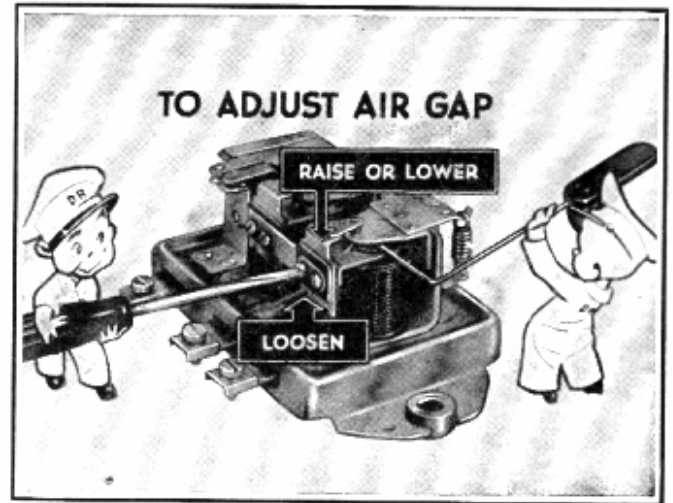

Fig. 30—Adjusting Air Gap
- Adjustment of the air gap—Push the armature down all the way by hand. Allow it to come back up until points are just closing; then measure the air gap with a feeler gauge. The distance between the armature and the core should be .070". The air gap may be adjusted by loosening the two upper contact mounting screws and moving the upper contact support up or down as required to secure the proper air gap. (As illustrated in Fig. 30.) Be sure that points are lined up and tighten screws down well after adjustment.